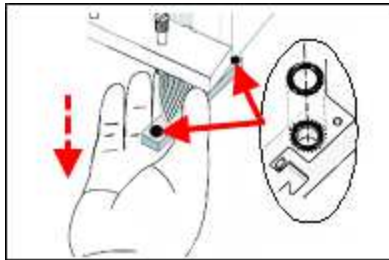

Figure 6-75 O-ring seals on the print head
15. Inspect the replacement head, and make sure that the O-ring seals are in place (see Figure 6-75 on the previous page).